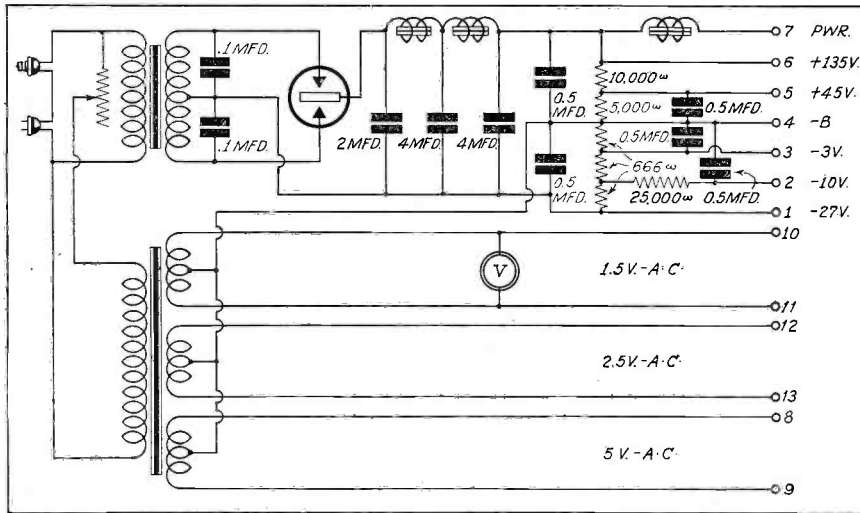
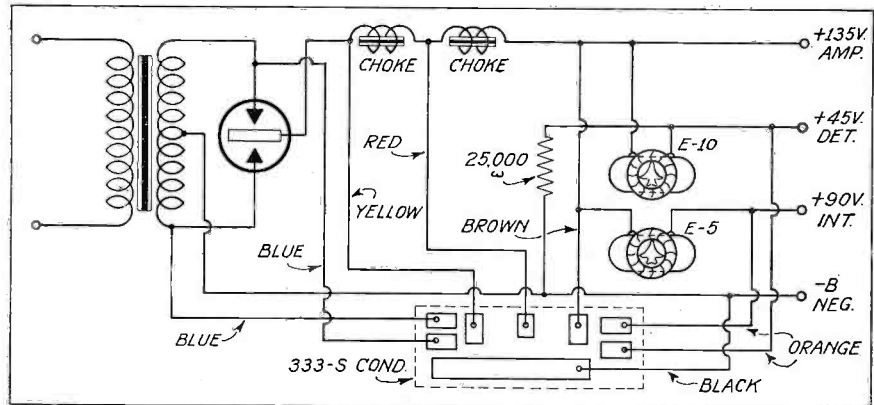

Fig. 1. Schematic diagram of the All-American A-10 "B" Eliminator
Fig. 2. Schematic diagram of the All-American A-8 "B" Eliminator
The schematic diagram of the Model 80 receiver is shown in Fig. 1 and an under view of the chassis layout is shown in Fig. 2. The necessary resistance data for carrying out a point-to-point resistance test, and voltage data, are given in accompanying tables.
Fig. 1. Schematic diagram of Philco 80. The resistance of the secondary of transformer (8) should be 2.4; of (28), .11, and the primary of (33), 10.42. These values are listed correctly in the resistance table
Fig. 2. Under-view of the sub-base. The numbers correspond to those given in the accompanying tables. The locations of a few of the units have been changed in later production runs. See text for details
A number of circuit changes were made on chassis of run No. 5 and above. This run number is rubber-stamped in a star on the back of the chassis. Referring to Figs. 1 and 2, the condenser (27) connects to the B—end of the resistor (26) instead of to ground. The bucking coil—that section of (30) in series with the voice coil—is shorted out. The 10-mfd. dry electrolytic condenser (37) is eliminated, and replaced with a substitute .015-mfd. section combined with (32), part 3793R. The .01-mfd. condenser (38) is eliminated. The positions of (19), (26) and (36) are changed in the chassis from that shown in Fig. 2.
Fig. 1 shows the circuit for the A-10 Power Unit. Fig. 2 is the circuit for the Type A8 B-Eliminators. Fig. 3 is the circuit used in B-Eliminators Type A-1, A-3 and A-4.
The schematic diagram of the chassis used in the Stewart-Warner Models R-104-A, R-104-B, and R-104-E is shown in Fig. 1. The chassis layout is shown in Fig. 2.